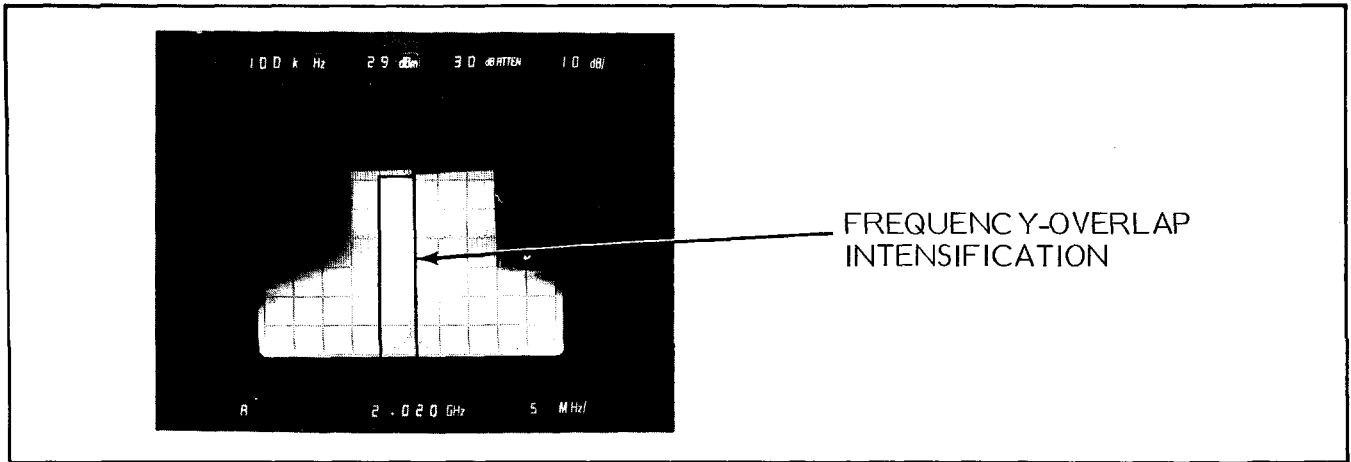

Figure 5-11. Swept-Frequency Display, Showing Frequency Overlap
- (3) position INPUT ATTEN so that the top of the swept-frequency display is visible (Figure 5-11);
- (4) adjust INTENSITY and PERSIST so that the overlap width shows up as an intensification of the swept display (Figure 5-11).